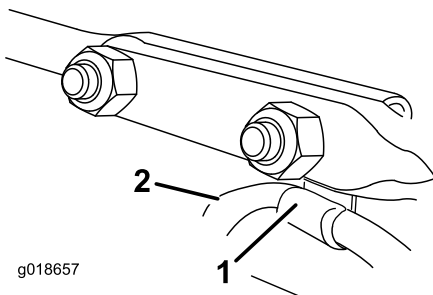

Figure 17
6. Insert the cable clip that supports the deflector cable under the head of the forward carriage bolt, and secure the carriage bolts with locknuts from the loose parts bag (Figure 17).